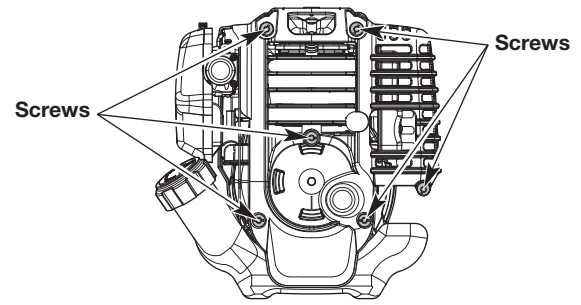

Fig. 24
2. Remove the six (6) screws from the engine cover with a flat-head screwdriver or T-25 Torx screwdriver (Fig. 24). Remove the engine cover.